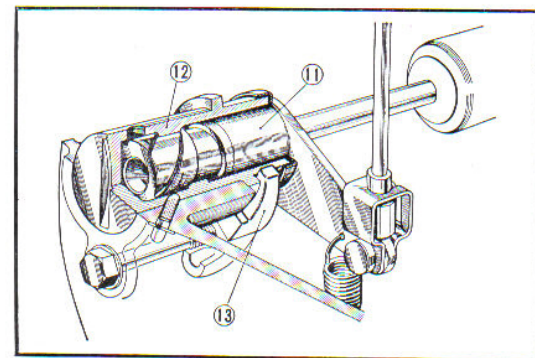

Fig. 3.81 Clutch adjusting mechanism
Clutch adjustment is made by loosening the clutch adjuster fixing piece lock bolt (13) and turning the clutch adjuster (12). (Fig. 3.81)